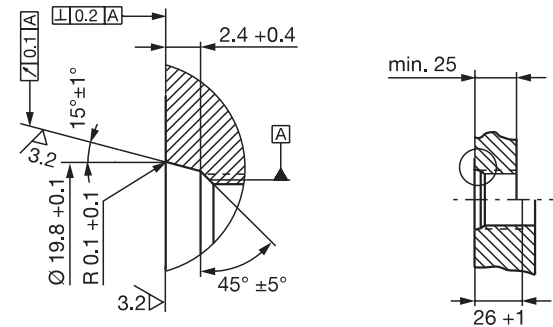
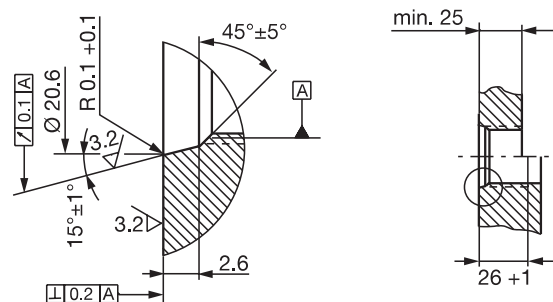

Fig. 4-3: Mounting hole M18x1.5 per ISO 6149 O-ring 15.4x2.1
Fig. 4-4: Mounting hole 3/4" 16UNF per SAE J475 O-ring 15.3x2.4
- ▶ Make a mounting hole with thread (possibly with countersink for the O-ring) acc. to Fig. 4-3 or Fig. 4-4.